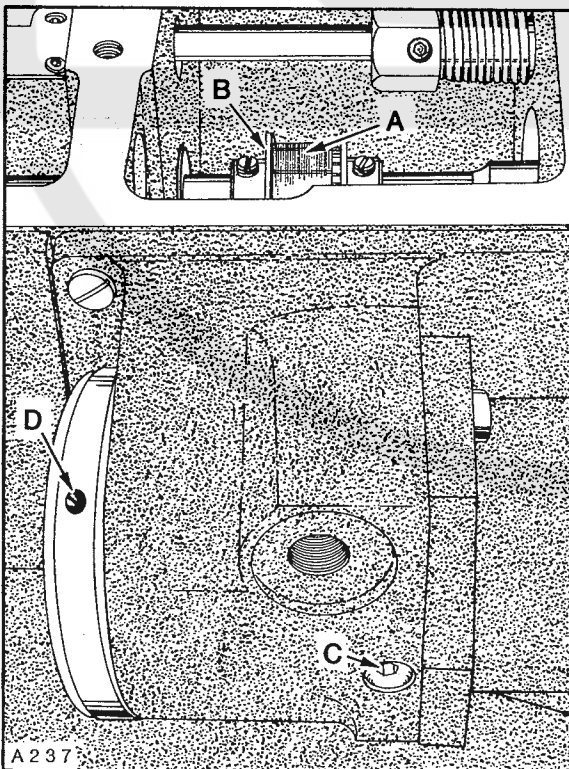

Fig. 34
There should be approximately 1/8 inch (3.2mm) deflection in puller drive belt (A, Fig. 34) when pressing firmly between sprocket (B) and puller drive assembly. Adjustment can be made by loosening one screw (C) securing eccentric (D) and rotate eccentric counterclockwise as viewed in Figure 34, to tighten belt, clockwise acts the reverse. Be sure to maintain .006-.010 inch (.150-.254mm) between eccentric and drive housing. Tighten screw (C) securely. Replace top cover and tighten four screws.